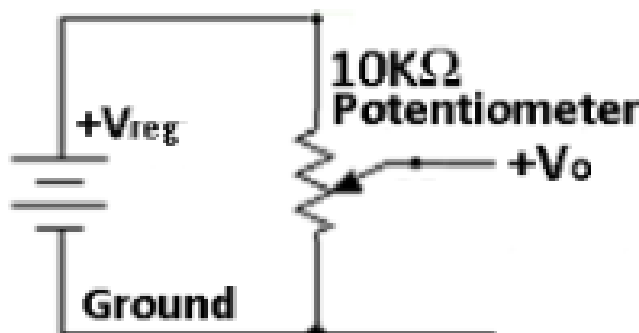

Figure 2.1. Potentiometer Variable Power Supply
2.1) Although some Arduino Starter Kits include a **10K ohm potentiometer** the Elegoo one DOES NOT. If you have a potentiometer, wire it in parallel across the power supply with a **red** wire from one of the RED 'busses' and a **black** wire from one of the BLUE (ground) bus connection (see Figure 2.1). This circuit will permit you to turn the potentiometer and generate V_o voltages from 0 to 5 volts.
The circuit of Figure 2.1 is often called a voltage divider since the voltage is divided across (in this simple case) two resistors or in the case of the potentiometer, resistance between **+5 volts** and the wiper arm connection and the resistance between that connection and **ground**. If we connect the Multimeter between the **10K ohm potentiometer’s** variable wiper and ground we can adjust the output voltage V_o from zero to 5 volts nearly continuously by rotating the potentiometer’s dial.